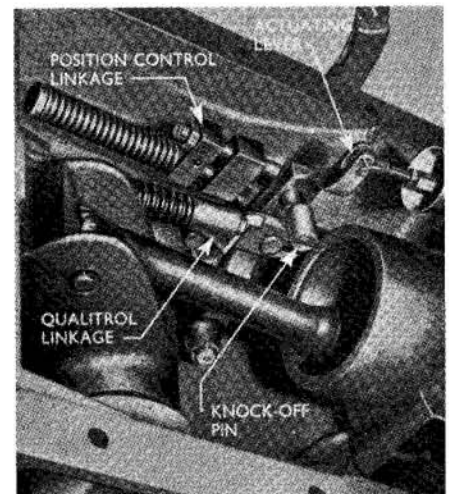

Fig. 204—View of model "New FSM" control linkage showing knock-off pin.
**257. ADJUST "KNOCK-OFF" PIN.** After the draft control linkage is properly adjusted as outlined in paragraph 256, it is important that the eccentric "knock-off" pin (see Fig. 204) in control valve actuating lever is properly adjusted.